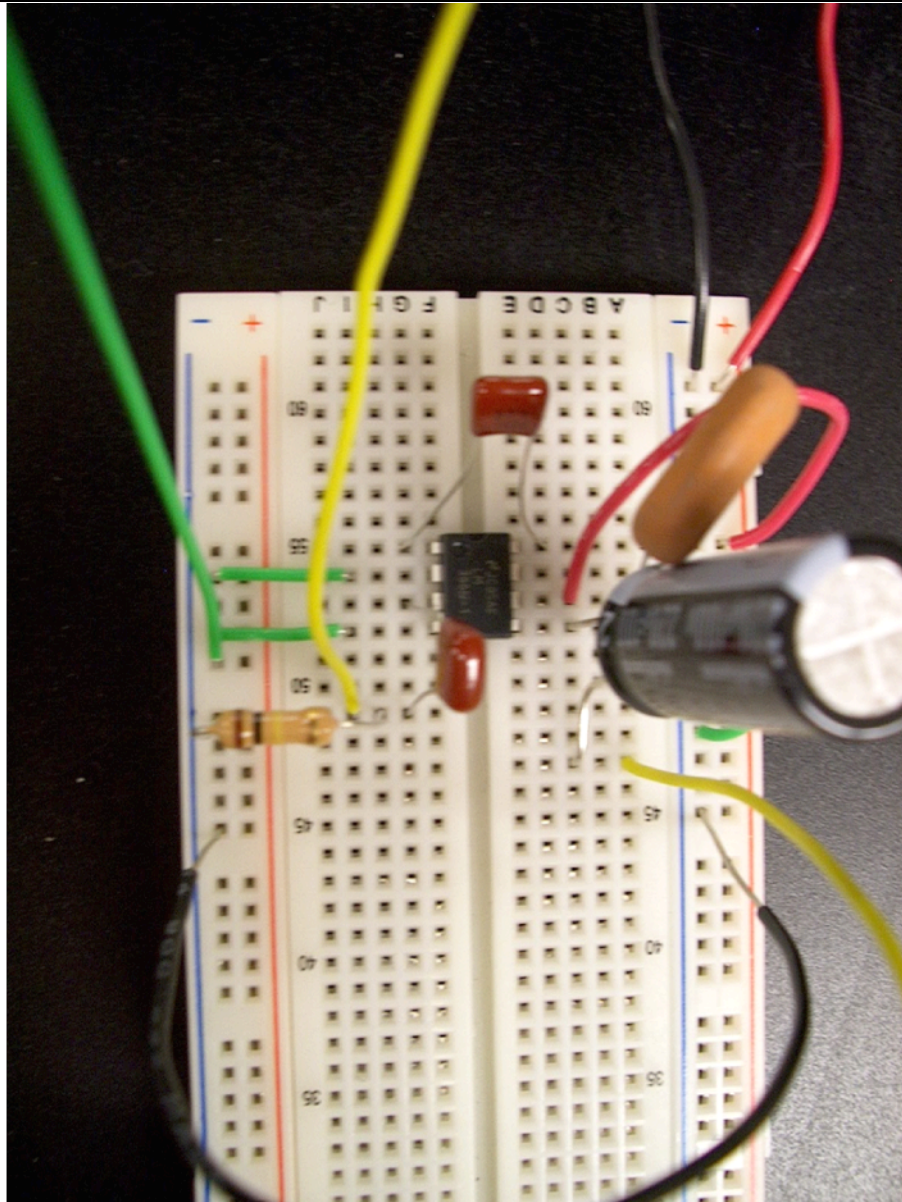

Figure B8. Step 11 of amplifier assembly.
11. Finally, connect the two ground buses together with a wire (black Figure B8.. Double check that you have not connected either ground bus to the positive (red) bus. The ground bus on the right is the one with the *black* wire.